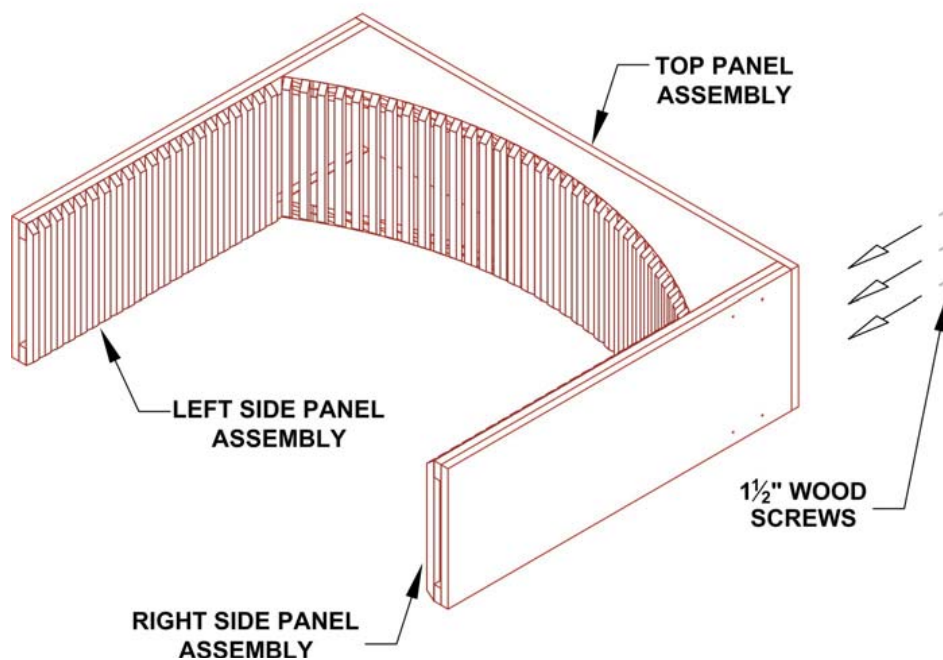

Figure 4
6. Repeat step 4 for the other panel (**Figure 4**).